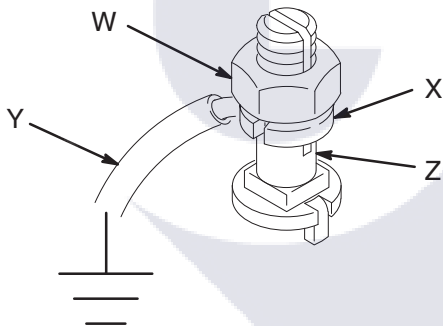

Fig. 2
All Other Pumps: use a ground wire and clamp. See Fig. 2. Loosen the grounding lug locknut (W) and washer (X). Insert one end of a 1.5 mm @ (12 ga) minimum ground wire (Y) into the slot in lug (Z) and tighten the locknut securely. Connect the other end of the wire to a true earth ground. Order Part No. 237569 Ground Wire and Clamp.